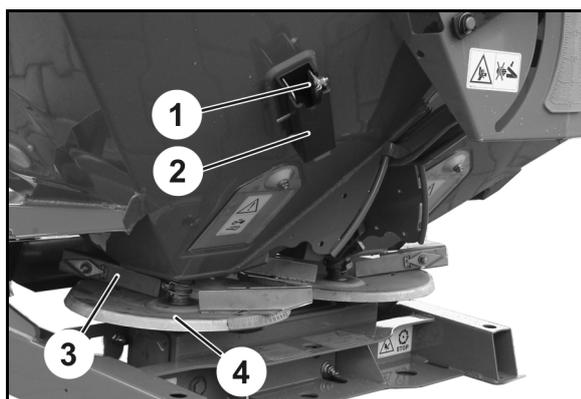

Fig. 78
1. Remove the border spreading vane (Fig. 78/1) from the holder (Fig. 78/2).
2. Remove the long spreading vane (Fig. 78/3) of the left spreading disc (Fig. 78/4).